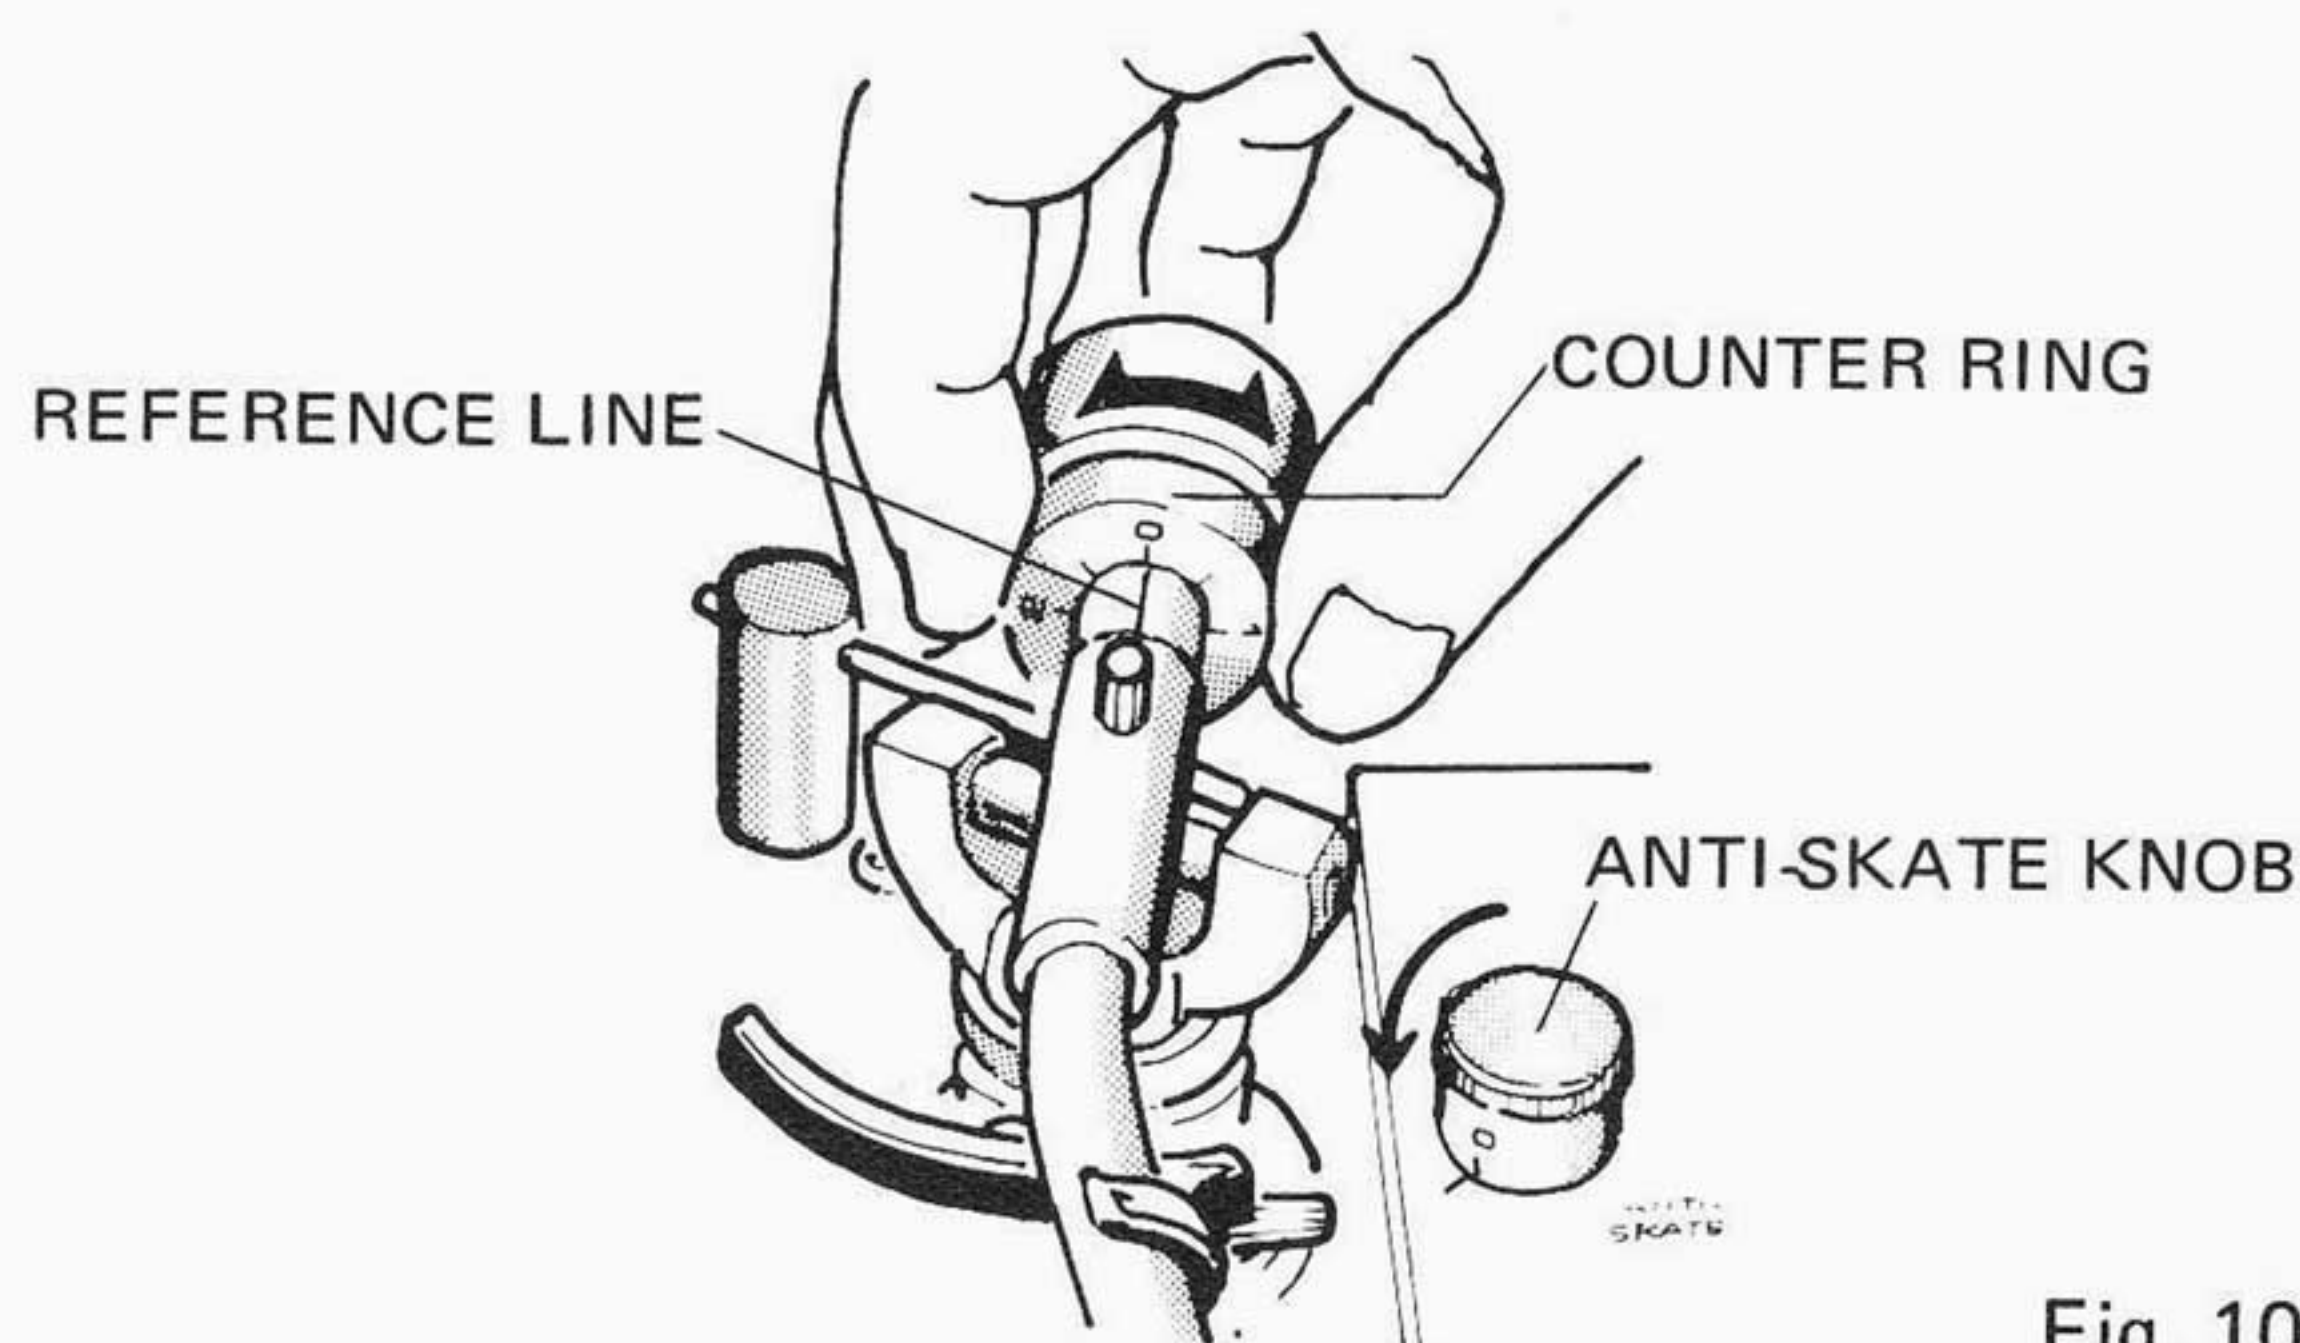

Fig. 10
1. Set ANTI-SKATE knob to 0 (Fig. 10).
7. Tracking force is 0 at the point where horizontal balance is obtained. Turn only the counter ring (use care not to turn counterweight at this time) and set its 0 indication to the tracking force reference line on the tonearm (Fig. 10).